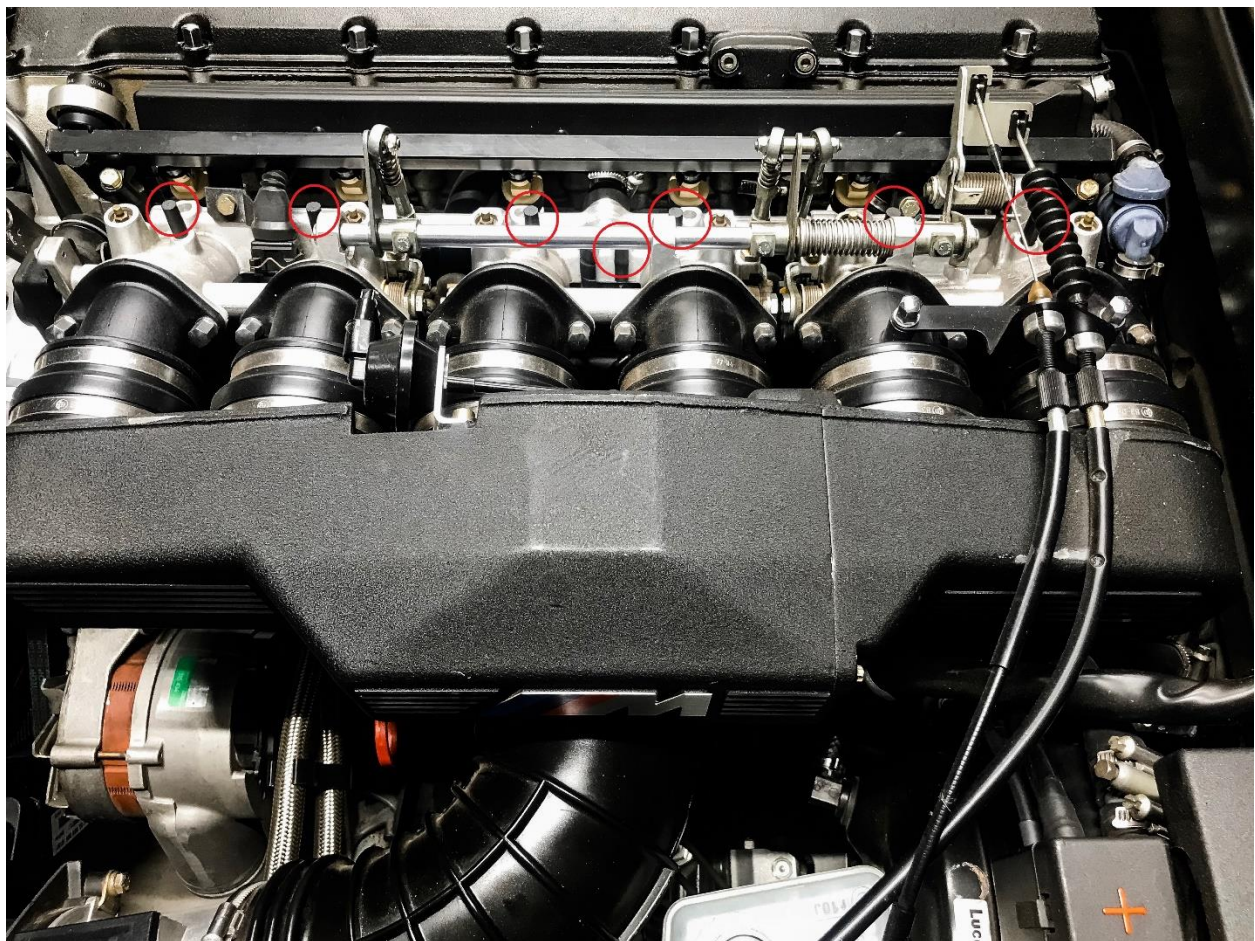

Figure 29
29. Remove all 7X vacuum caps on throttle bodies as shown in Figure 30 and wipe down with shop rag to ensure no oil, dirt, or debris can cause potential sealing issues. Install new caps by pressing on barbs. See Figure 29 (S38B36 shown).